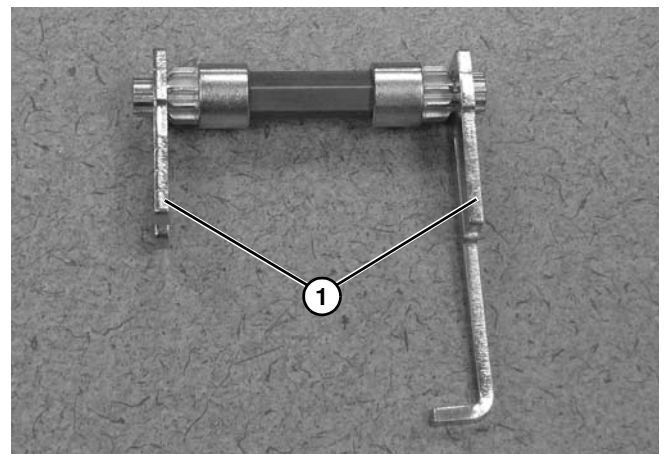

Figure 145
6. Slide on retaining plates (**Figure 145, item 1**).